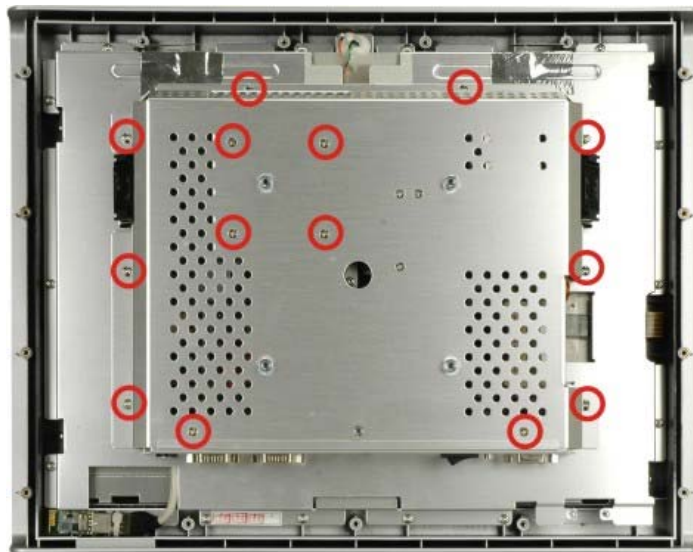

Figure 5-2: Aluminum Back Cover Retention Screws
Step 1: Remove the retention screws securing the internal aluminum cover. **Figure 5-2** shows the aluminum cover retention screws of the AFL-15A-N270.